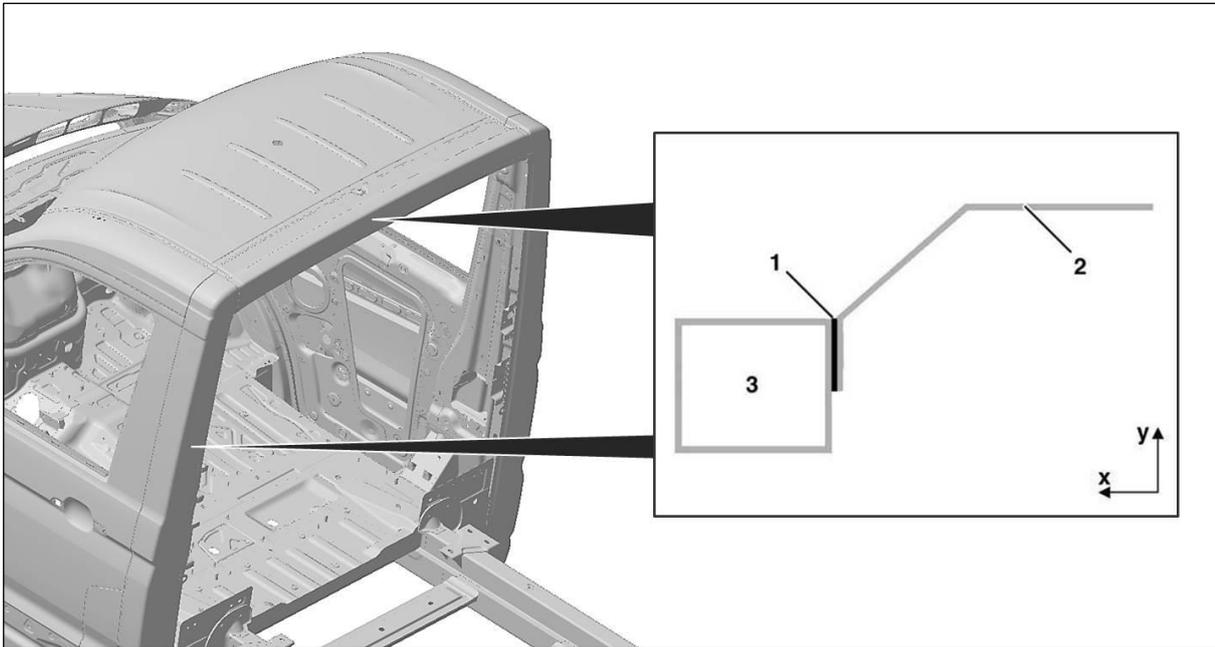

Fig. 7: Connection of body to B-pillar and roof frame via body flange (illustration)
- Connection of body to the B-pillar via a body flange with $t = 2$ mm angled at approx. $2 \times 45^\circ$. The body flange shall be connected by bonding over the whole area (see Fig. 7).